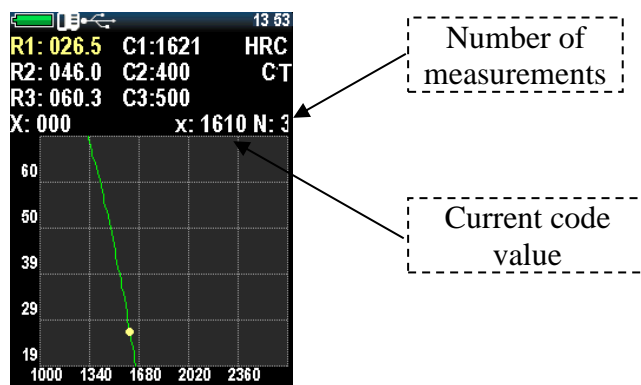

Figure 2.31 - Measuring for calibration
- Then move the cursor to the hardness value according to the sample, and make at least five measurements (Figure 2.31). Make sure that the value of X (the current code value) does not change by more than 3%.